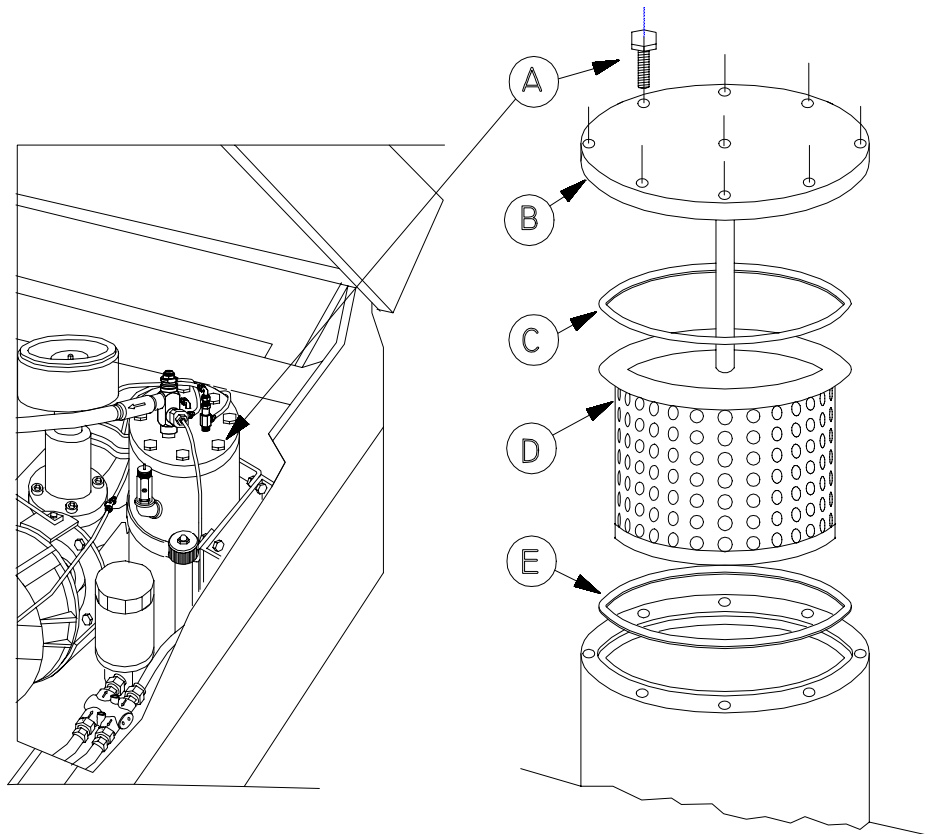

FIG. 21
10.11) OIL SEPARATOR ELEMENT (Fig. 21) --
Therefore after having checked the condition of the recovery nozzle (operation described in paragraph 10.5) and having made sure of the correct oil level in tank, should there be any further traces of oil in the compressed air, it is necessary to replace the oil separator filter (fig. 21).
3. Loosen the screws (fig. 21, part A) and remove the flange (B).
4. Extract the filtering element (D) together with the seals (C) and (E).
5. Assemble the new seal (E) in the relative slot which has been previously cleaned. Endure that a metallic insert has been clipped to the seal in order to avoid the isolation of the filter and the accumulation of static electricity. Otherwise there is a risk of the separator filter catching fire.
7. Assemble the second seal (C) with the same precautions as above.
8. Reassemble the flange (B) in the pre-assembly position.
13. Stop the machine with tank depressurized to 0 bar, re-check the screw tightening (A).